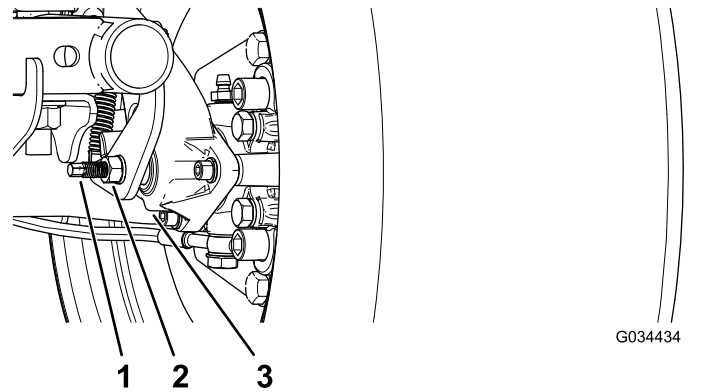

Figure 55
3. Using 2 wrenches, hold the adjusting post on the caliper in place with 1 wrench, and loosen the jam nut 1/4 turn with the other wrench (Figure 55).
4. While holding the adjusting post and the jam nut in place, turn the adjusting post in to tighten (Figure 55).
5. While holding the adjusting post and the jam nut in place, back off 1/4 turn (Figure 55).
6. While holding the adjusting post and the jam nut in place, tighten the jam nut (Figure 55).